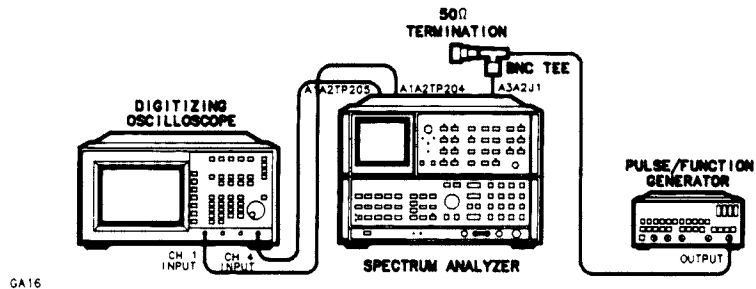
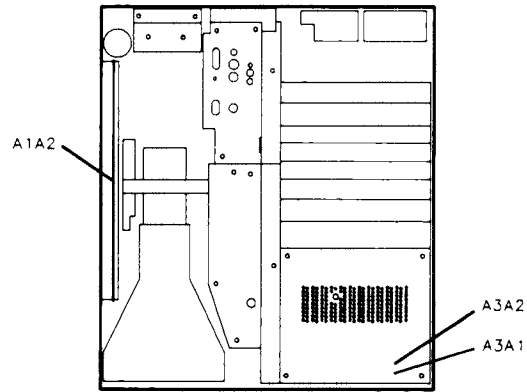
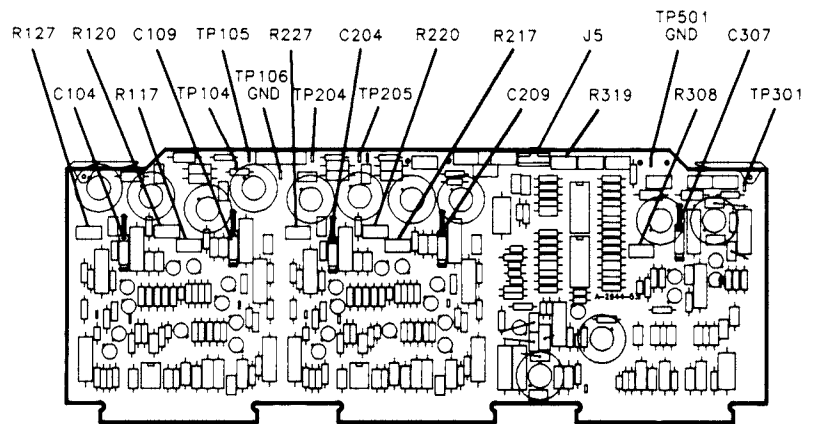
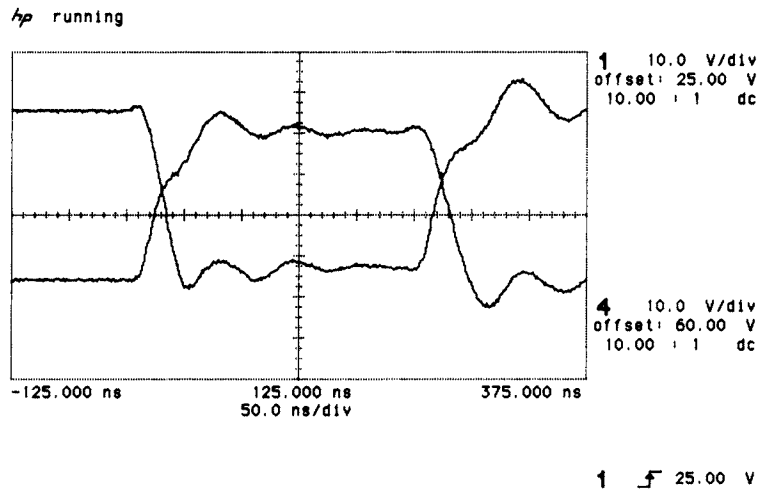

Figure 3-23. Preliminary Display Adjustments Setup
Figure 3-24. Location of A1A2 and A3A2
Figure 3-25. A1A2 Adjustment Locations
Figure 3-26. X+ and X- Waveforms
8. Connect the channel 1 10:1 divider probe to A1A2TP204, and the channel 4 probe to A1A2TP205, as shown in Figure 3-23. Connect the probe ground leads to A1A2TP106. See Figure 3-24 and Figure 3-25 for the location of the assemblies and test points.
9. Set the spectrum analyzer **LINE** switch to standby. Remove the cover over A3 Digital Storage Section and remove A3A2 Intensity Control Assembly. Insert the Display Adjustment PC board (HP part number 85662-60088) into the A3A2 slot. See Figure 3-24 for the location of the A3A2 assembly.
11. Connect the output of the pulse/function generator to J1 (X input) on the Display Adjustment PC board in the A3A2 slot as shown in Figure 3-23.
14. The X+ deflection and X- deflection waveforms should be superimposed on the oscilloscope display, as shown in Figure 3-26. If necessary, adjust A1A2R227 X POSN and A1A2R220 X GAIN for a centered display of at least four vertical divisions. See Figure 3-25 for the location of the adjustments.
19. Connect the oscilloscope channel 1 probe to A1A2TP104 and the channel 4 probe to A1A2TP105. See Figure 3-25 for the location of the test points. Connect the output of the pulse/function generator to J2 (Y input) on the Display Adjustment PC board in the A3A2 slot.